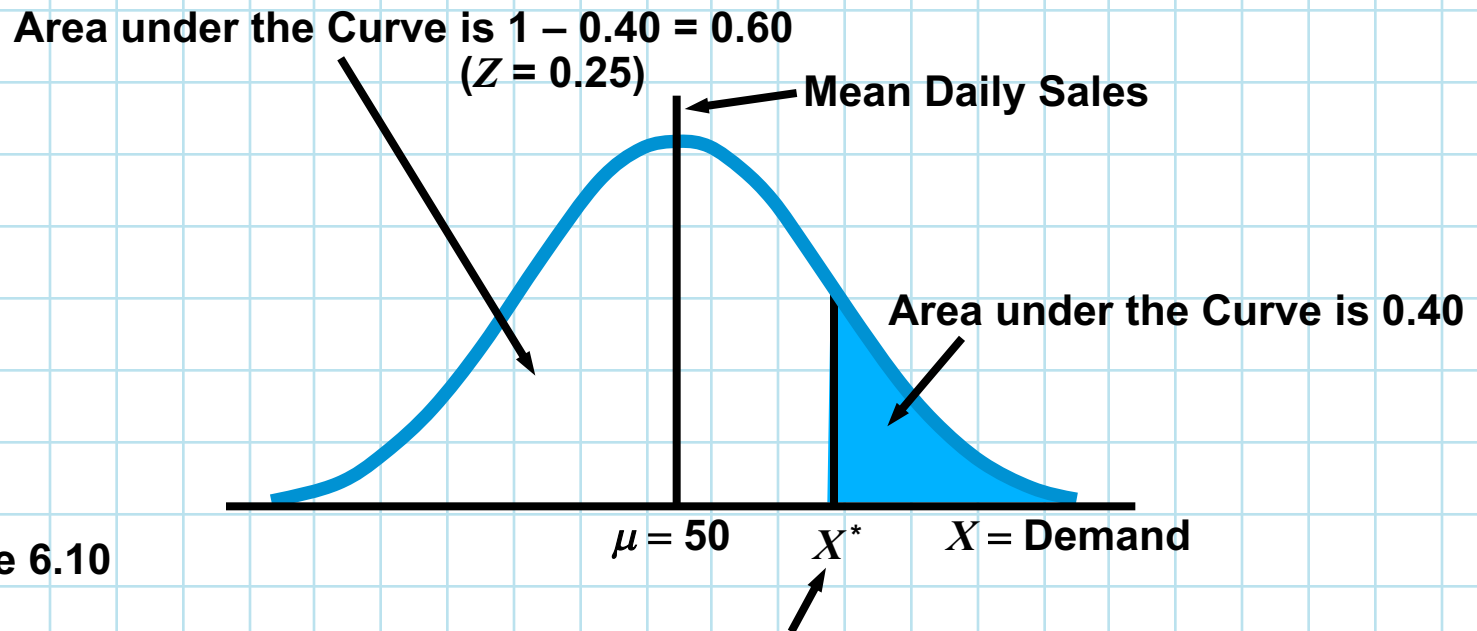

Figure 6.10
Step 2. Using the normal distribution in Figure 6.10, we find the appropriate Z value